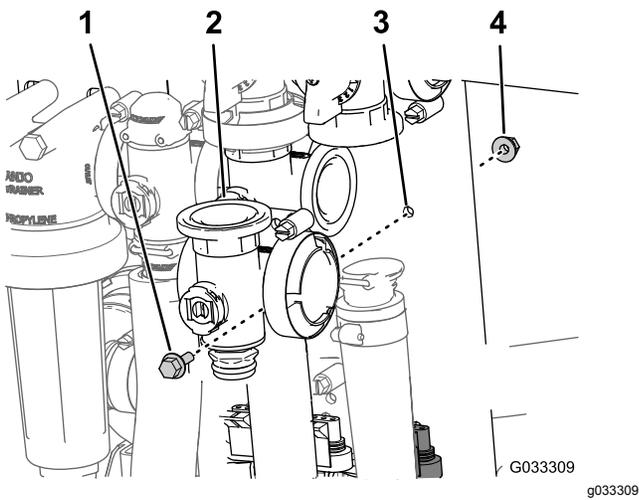

Figure 67
3. Remove the flanged-head bolt and flanged locknut that secures the master-boom valve to the valve mount and remove the valve manifold from the machine (Figure 67).